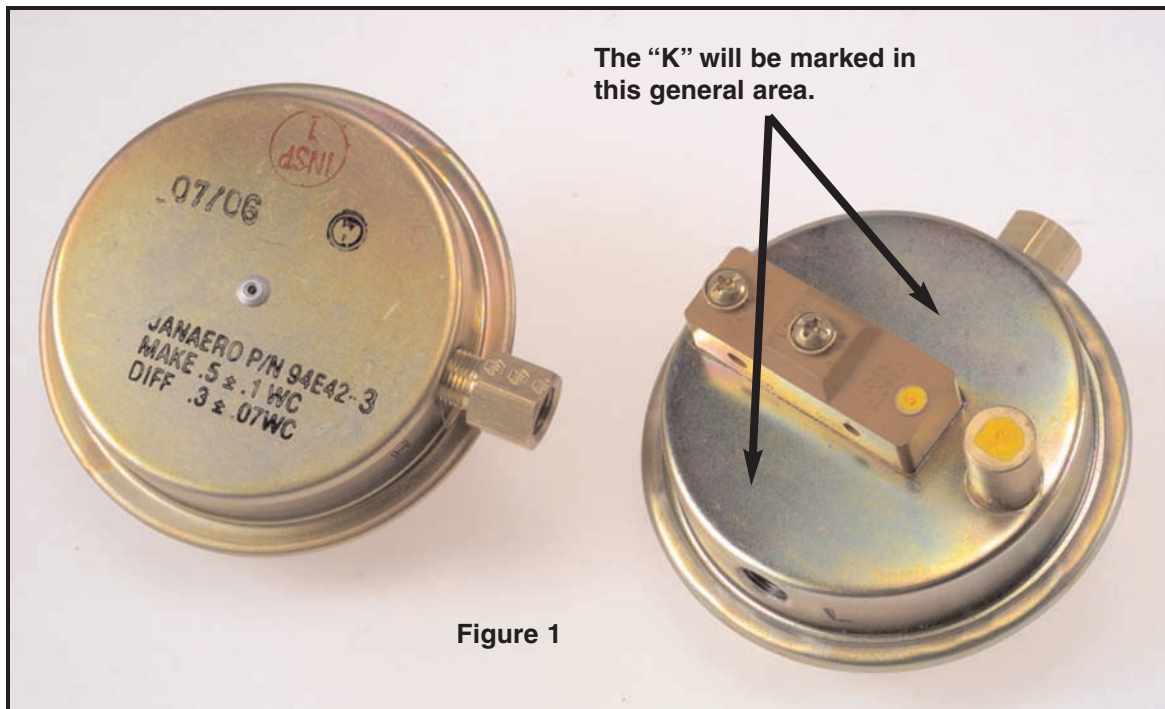

Figure 1
3. If replacing the air pressure switch as a product improvement, examine the switch body for an ink stamped part number which should be on the back side of the body. On the other side (switch end) look for the letter "K". If found, the product improvement has already been accomplished. See Figure 1 on page 2 of this Service Information Letter. *Note: Examination of Log Book entries may not reveal that this product improvement has been accomplished because the new air pressure switch carries the same JanAero (Janitrol) part number.*